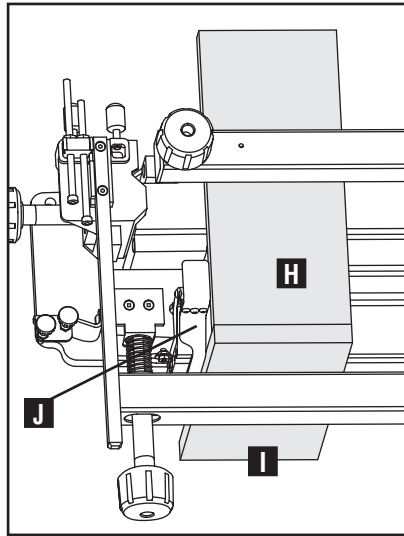
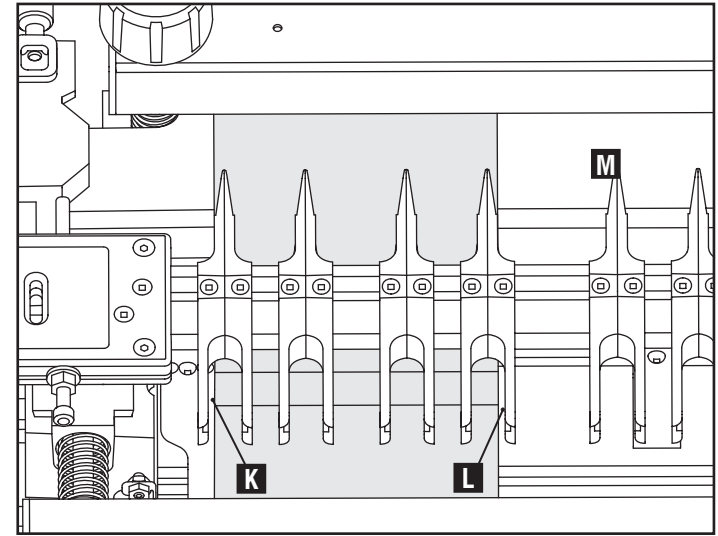

Fig. D6
Fig. D7
6. Pull horizontal scrap (H) Fig. D6 forward against the back of the vertical tailboard (I), as shown in Fig. D6.
7. Be sure both boards are lined up flush against the left offset guide (J).
8. Position the fingers using the supplied square screwdriver. An 1/8" gap is recommended between the vertical board and the fingers as shown at (K) and (L) in Fig. D7. This will help maintain proper spacing at the corners.
**NOTE:** Before making cut, put at least one finger set (M) Fig. D7 1-2 inches away from the right edge of the vertical board for router stability.